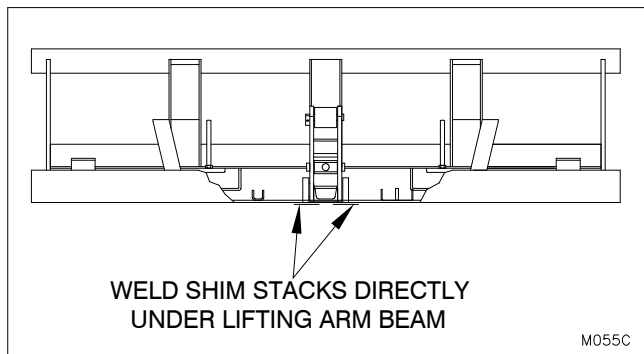

Figure 9: Shim Beneath Lifting Arm Bracket
- Place shims of minimum length and width of 3" by 4" and a minimum thickness of 14 gauge directly under lifting arm bracket. (See Figure 9: Shim Beneath Lifting Arm Bracket on page 8) Weld shim stacks to dock leveler frame.